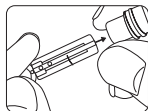

Figure 23
STEP 2: Insert a sterile lancet into the lancet holder of the lancing device and push down firmly until the lancet is fully seated. Do not twist the lancet. See Figure 23.